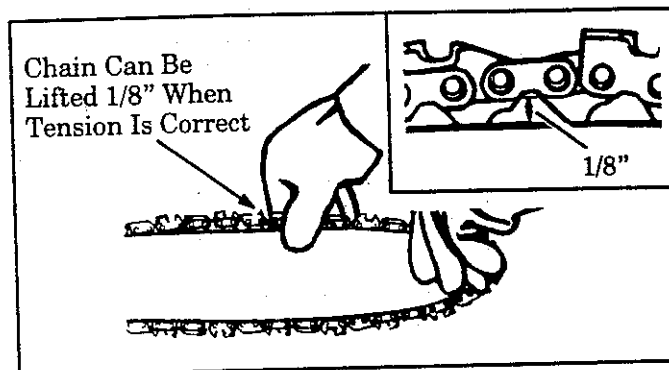

Figure 10
2. Check the tension by lifting the chain from the guide bar at the center of the bar. Figure 10.